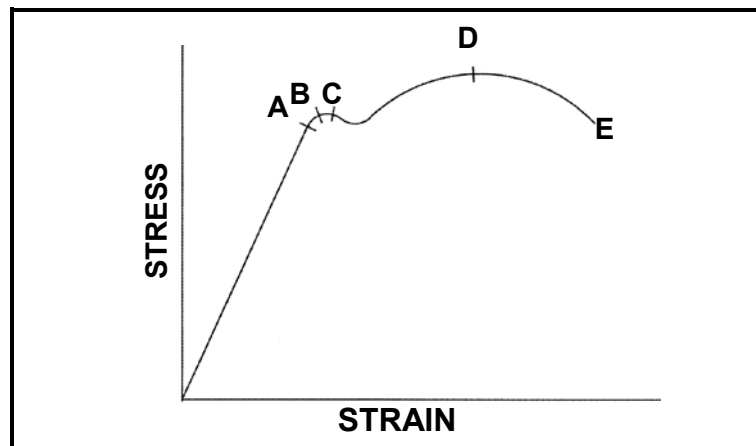

FIGURE 7.2
7.3 What do points **A–E** represent in FIGURE 7.2 below?